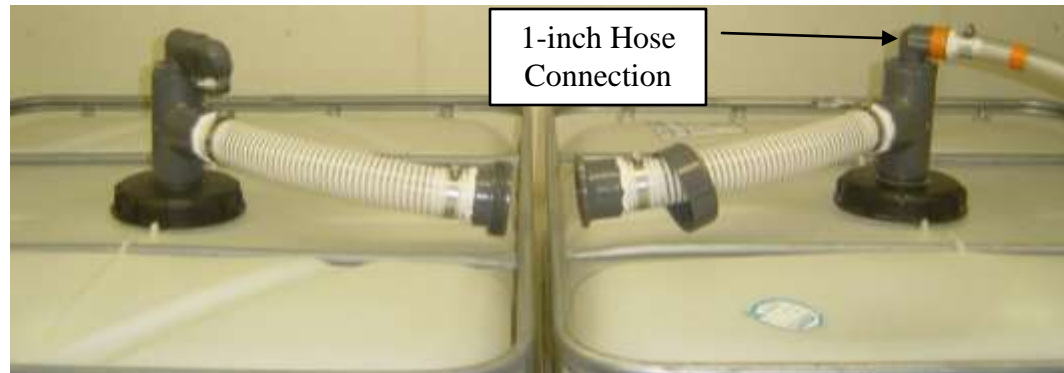

Figure 34: T1 and T2 Top Fitting Positions and T1 Hose Connection
- b. Apply Teflon tape to the threads of the T1 and T2 Top Fittings and screw the fittings into the 2-inch threaded holes in the T1 and T2 Tops respectively as shown in Figure 34. Tighten the Tops to the tanks and the Top Fittings to the Tops snugly (these fittings do not need to be hand tight) and align them as shown in Figure 34.
- c. Attach the loose end of the 1-inch hose coming from the Valve Assembly to the 1-inch hose barb on the T1 Top Fitting as shown in Figure 34. See Figures 34 and 36 for additional views of this connection.